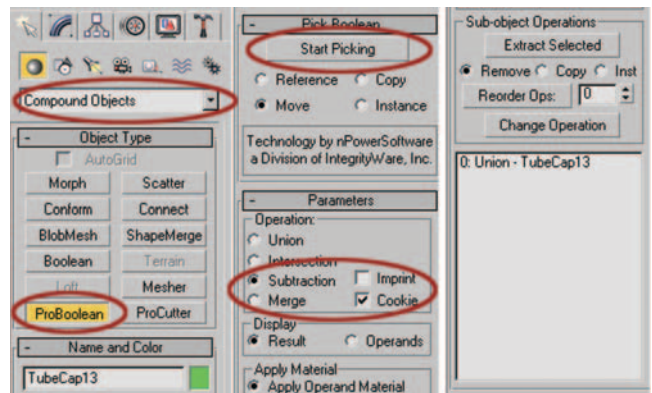

Figure 4.15 Important ProBoolean options highlighted.
2. Go to Compound Objects under the Geometry rollout (Figure 4.15).
3. This time, click ProBoolean to bring up the list of options (Figure 4.15). If Wireframe Display isn't active, enable it.
4. Click the Start Picking button (Figure 4.15), and select the extruded text object. You should see new openings on the base mesh in the shape of the letters.